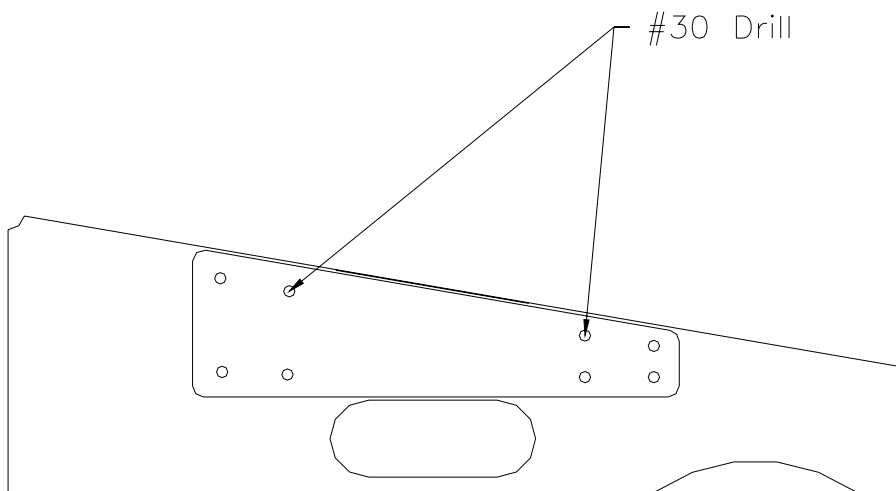

Figure 20.8.4
4) Drill four #30 holes in each end of the doublers. Figure 20.8.4.